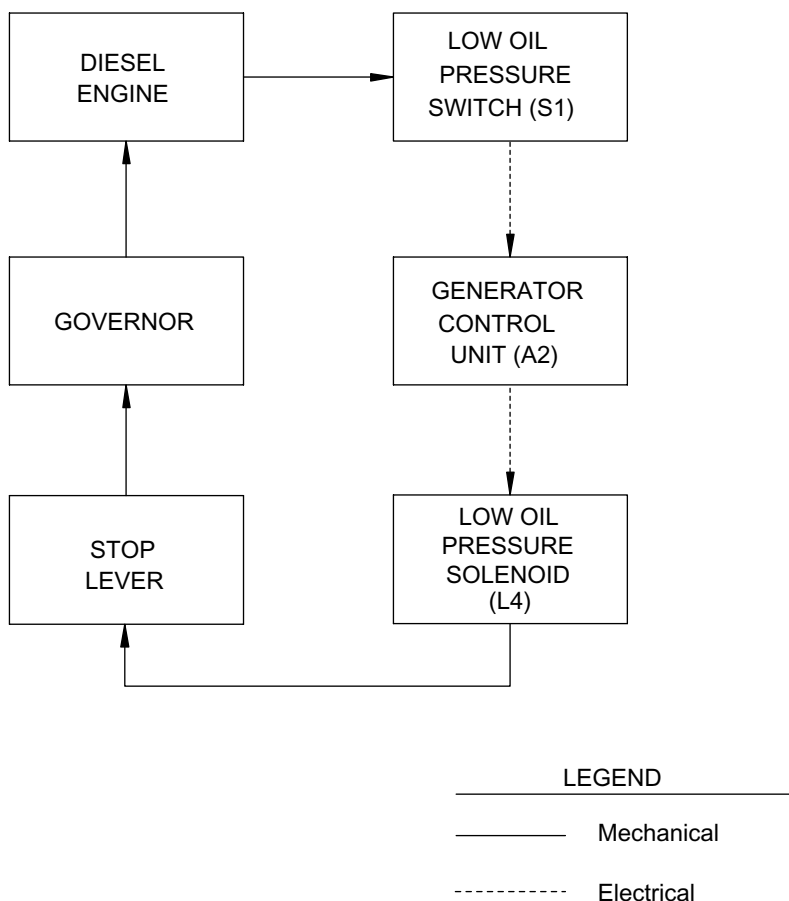

Figure 1-12. Low Engine Oil Pressure Protection System
1.24.1. The low oil pressure protection system (Figure 1-12) shuts down the diesel engine in the event of low oil pressure in order to protect the engine from further damage. The system consists of a low oil pressure switch (S1) located in the engine block above the oil strainer, a low oil pressure solenoid (L4) mounted in the control panel, and a cable connecting the low oil pressure solenoid to the diesel engine STOP lever.